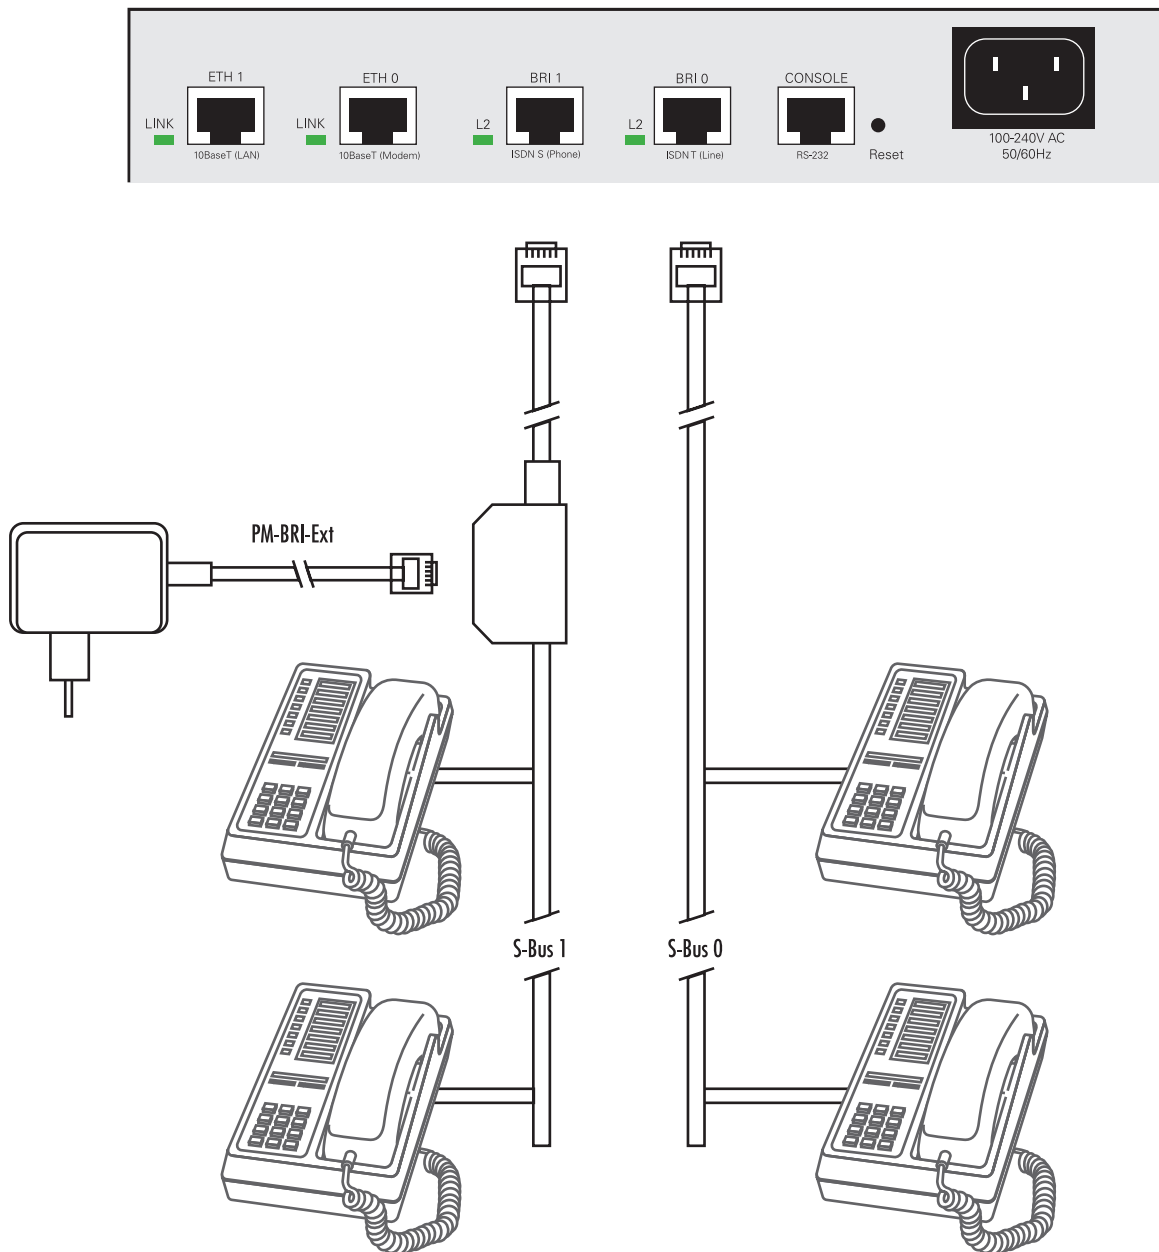

Figure 42. SmartNode 1200 external 40-VDC power supply
- The PM-BRI-EXT is connected to the S-Bus via an S-Bus multi-socket (see figure 42 on page 76).